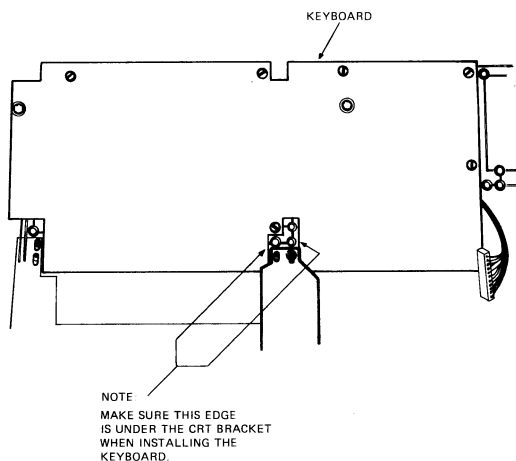

Figure 3-7 Removing and Replacing the Keyboard
3.8 REMOVING AND REPLACING THE KEYBOARD (Figure 3-7)